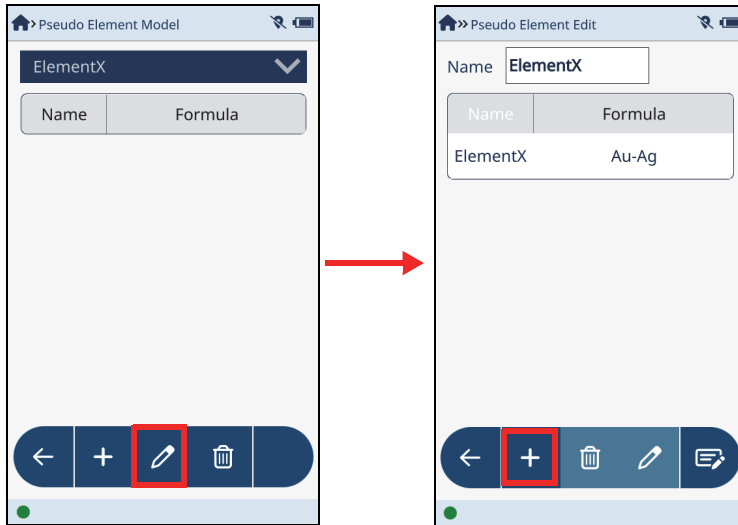

Figure 2-50 Pseudo Element Model screen (left) and Edit screen (right)
2. Tap the **Edit** button () to display the **Pseudo Element Edit** screen (see Figure 2-50 on page 64).
The newly added pseudo element is now listed with the element model (see Figure 2-50 on page 64 [right]).